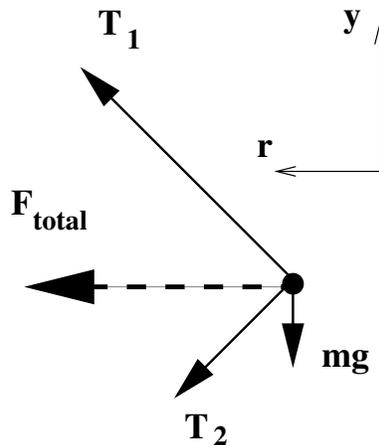

Figure 1: Force diagram for Problem 2
a) The force diagram is shown on Fig. 1.
b) Using the coordinate system shown on Fig. 1, we get